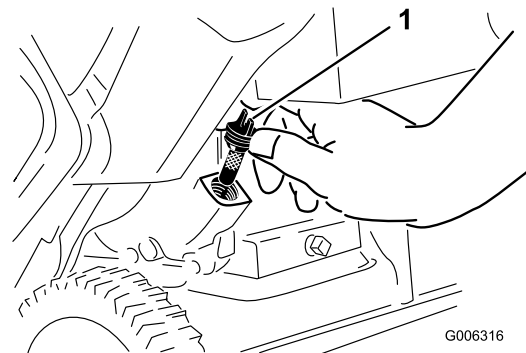

Figure 12
2. Clean around the oil-fill cap (Figure 12).